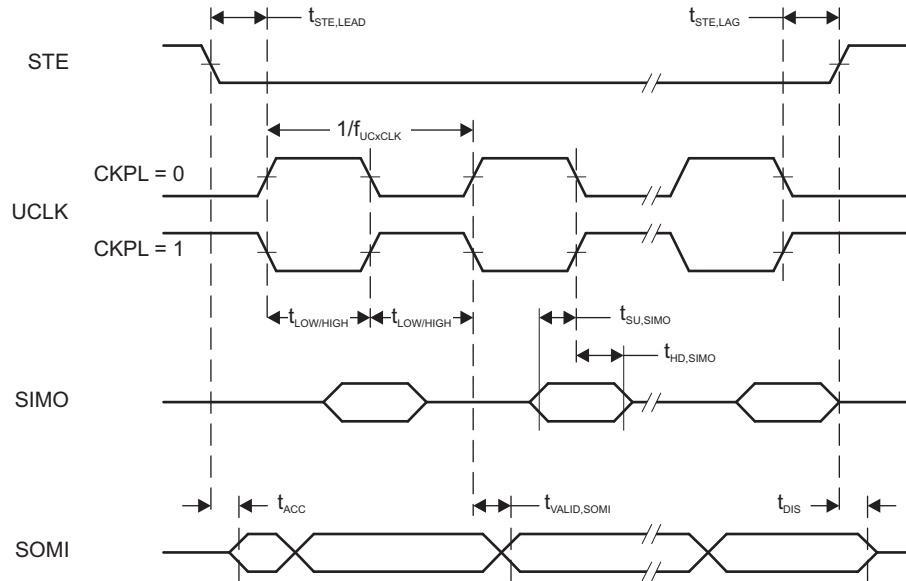
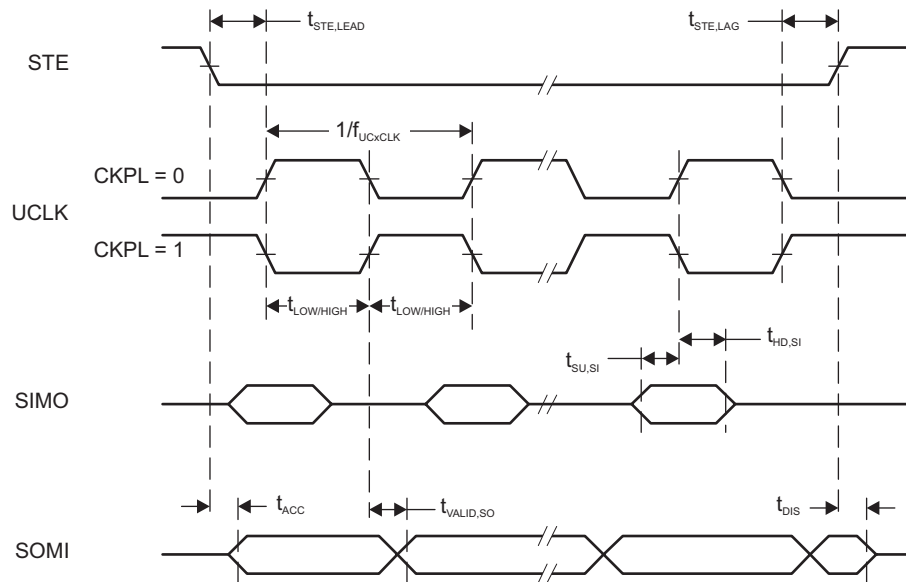

Figure 5-11. SPI Slave Mode, CKPH = 0
Figure 5-12. SPI Slave Mode, CKPH = 1
- (2) Specifies the time to drive the next valid data to the SOMI output after the output changing UCLK clock edge. See the timing diagrams in Figure 5-11 and Figure 5-12.
- (3) Specifies how long data on the SOMI output is valid after the output changing UCLK clock edge. See the timing diagrams in Figure 5-11 and Figure 5-12.